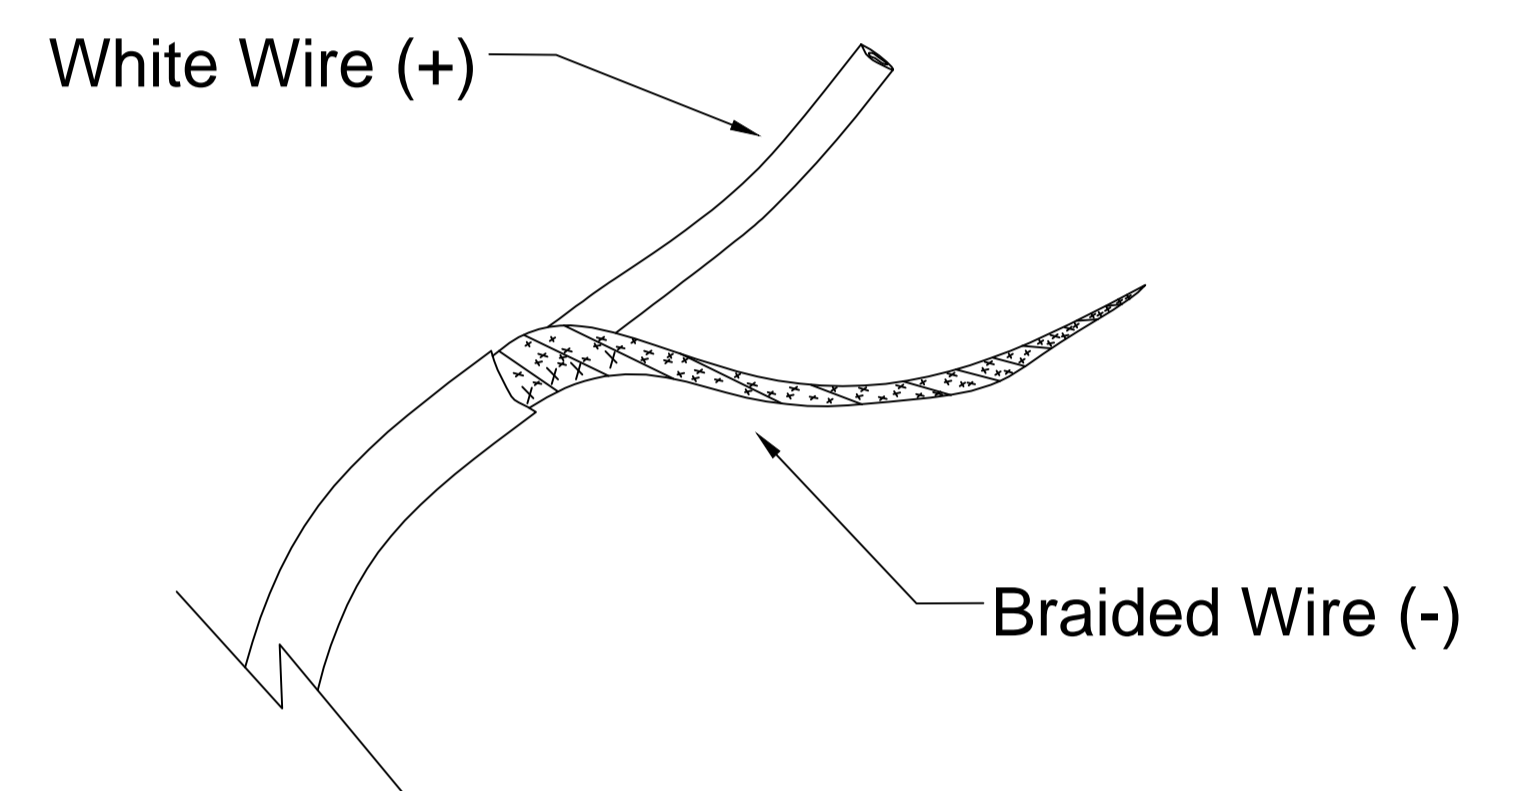

FIGURE-03
6. Separate the two wires and tangle the braided wire. (See Figure-03)